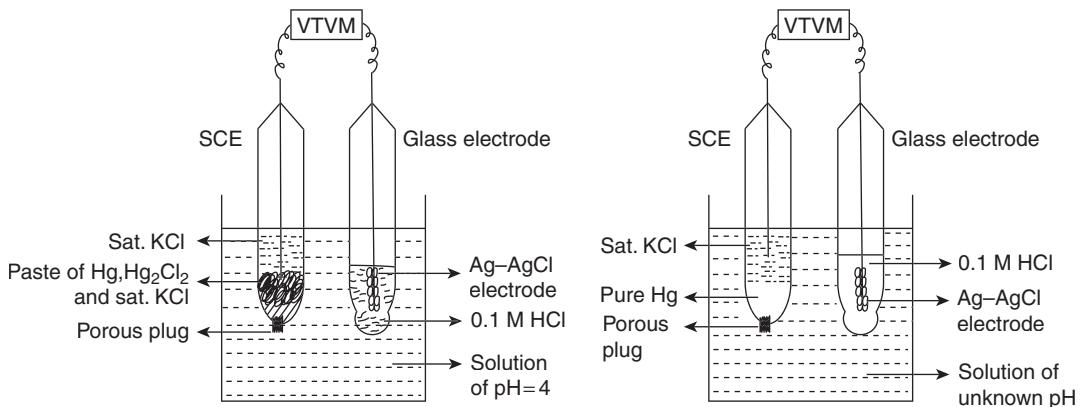

Figure 16 Cell for pH determination.
2. **Determination of the pH of the given solution:** The glass electrode is taken out of the connection. It is washed again with distilled water and wiped off with a soft cloth. Now, it is dipped in a solution whose pH is to be determined and is coupled in the SCE. The cell so set up (Figure 16) is represented as